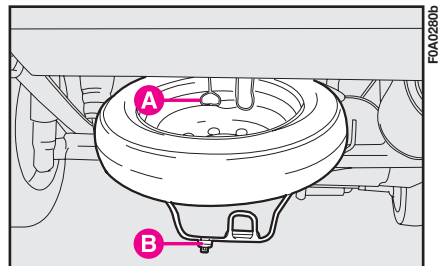

fig. 14a
1) Arrange the wheel you have replaced in the specific housing under the floor bed and secure the safety wire **A**-fig. 14a into clip **B**.